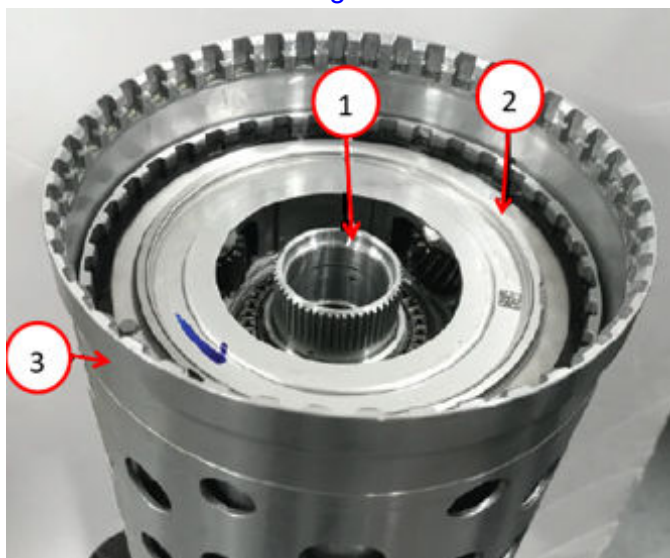

Fig. 28
42. Install the P2 annulus\P3 sun gear in the drum assembly Fig. 28.